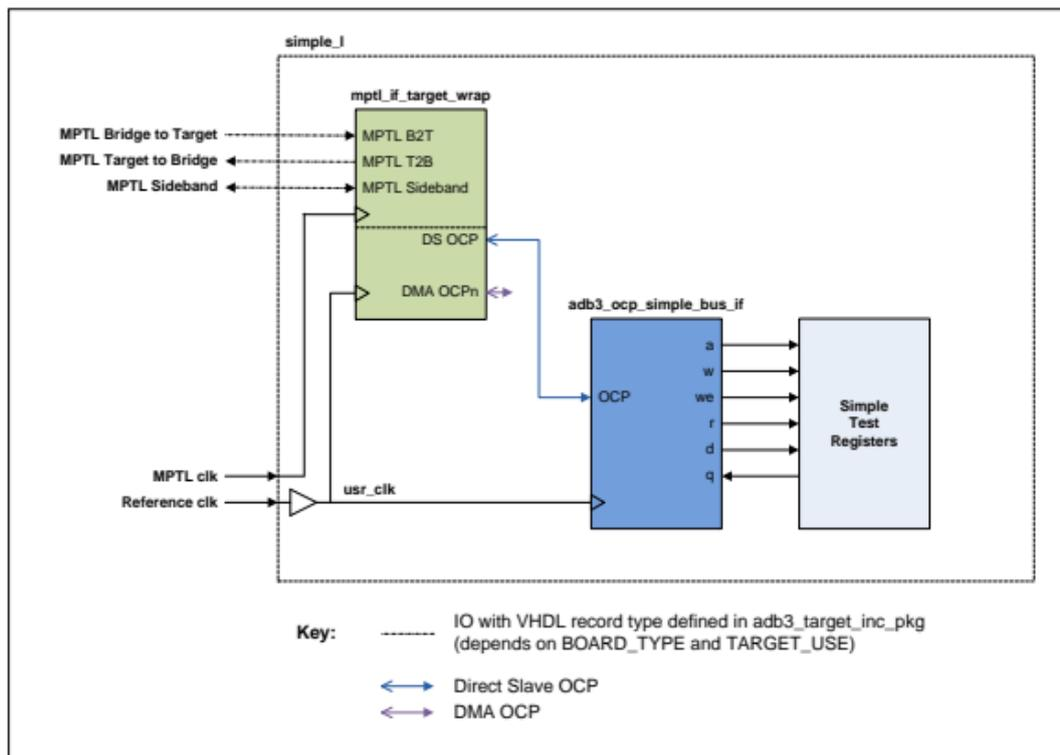

Figure 5: Simple Design Block Diagram
**Figure 5** below shows the main elements of the **Simple** design: